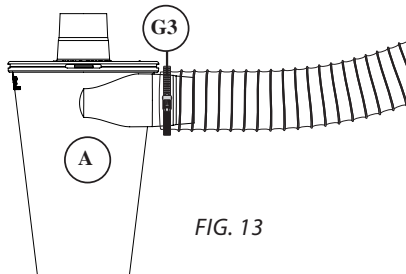

FIG. 13
- 13** Attach your vacuum's standard hose to the Cyclone's (A) side-facing inlet. Secure with Hose Clamp (G3) if necessary [FIG. 13].